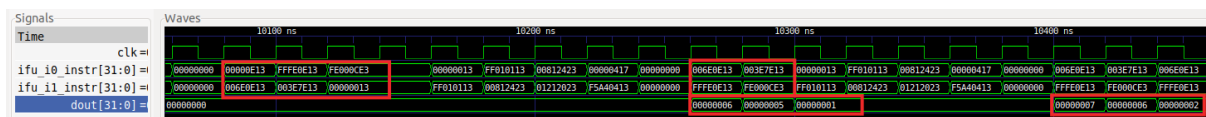

Figure 16. Execution of the three Arithmetic-Logic instructions from the example
- Zoom in around 10,100 ns, where you will analyse the execution of the three arithmetic-logic instructions of the first and second iterations of the loop (Figure 16). The first two instructions (*li t3, 0x0* = 0x00000E13 and *addi t3, t3, 6* = 0x006E0E13) are fetched first, one in each way of the superscalar RISC-V processor as shown on signals *ifu_i0_instr[31:0]* and *ifu_i1_instr[31:0]*. The next two instructions (*addi t3, t3, -1* = 0xFFFF0E13 and *and.i t3, t3, 3* = 0x003E7E13) are fetched in the next cycle. The last two instructions are fetched (*beq zero, zero, REPEAT* = 0xFE000CE3 and *nop* = 0x00000013) in the next cycle.